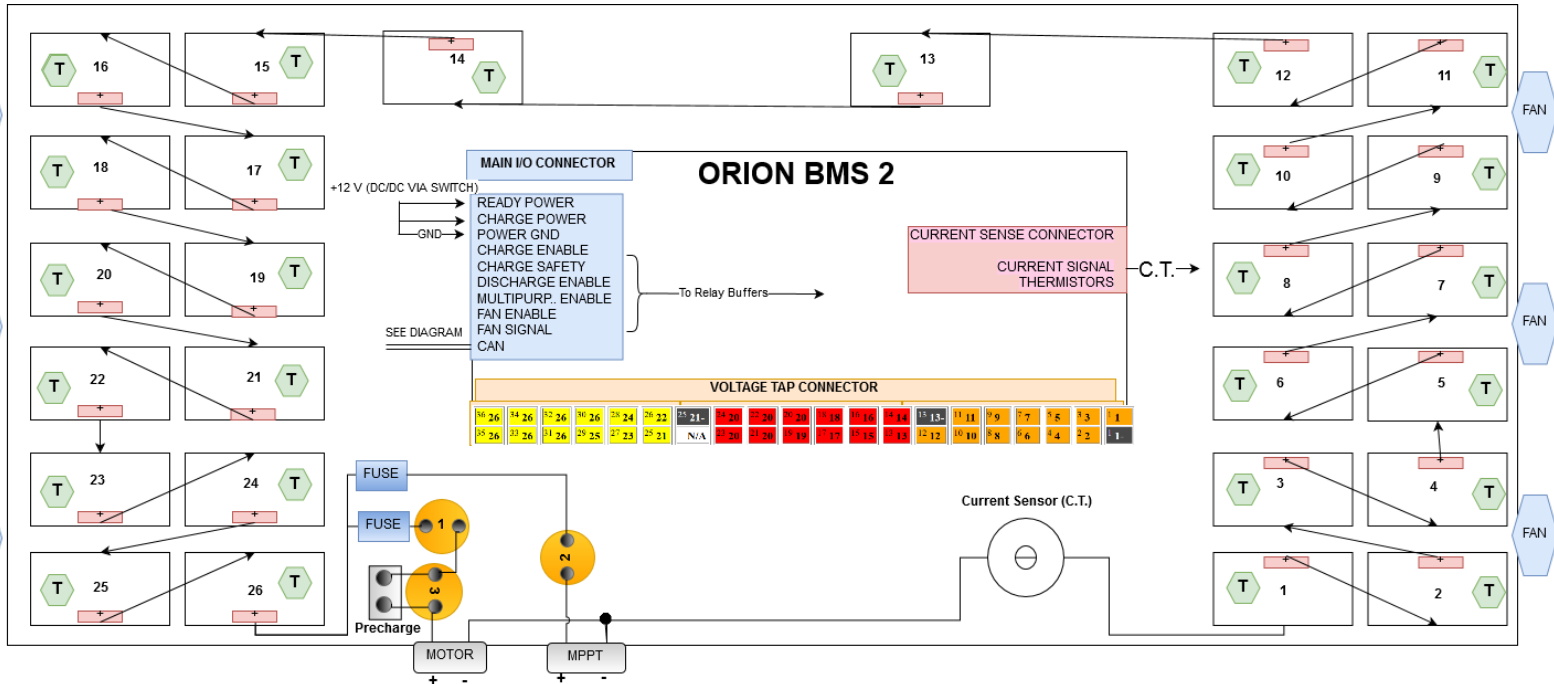

Figure 1: Battery Box Physical Layout
- As shown above, our battery consists of a string of 26 modules (Fig 1)